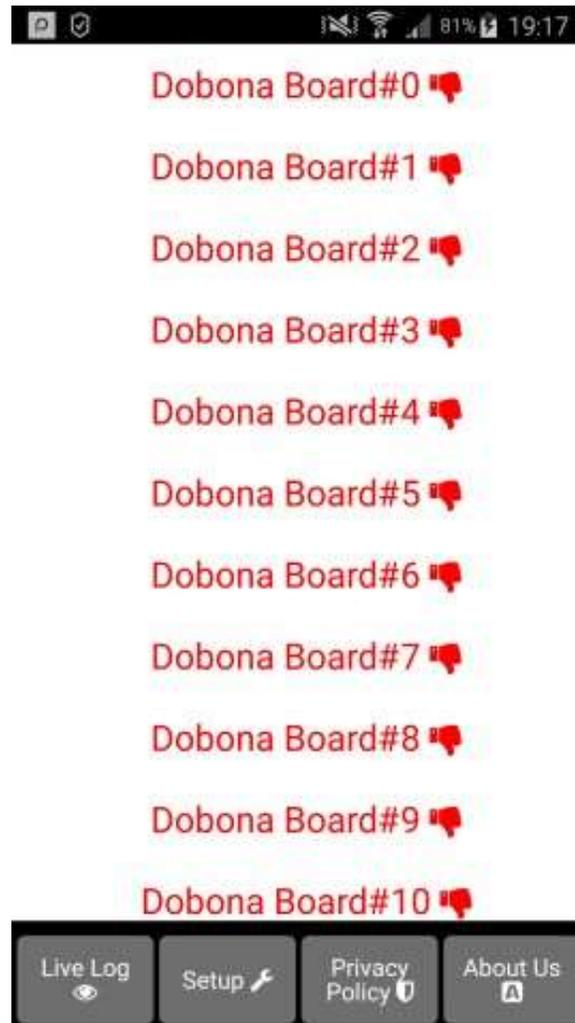

Fig 1.
4. User launches dobona app. the first screen that appears is the live log screen with scrollable fifty lines, each for setting up a separate board. The red font with the downward thumb shows that no board has been setup so far (Fig.1).